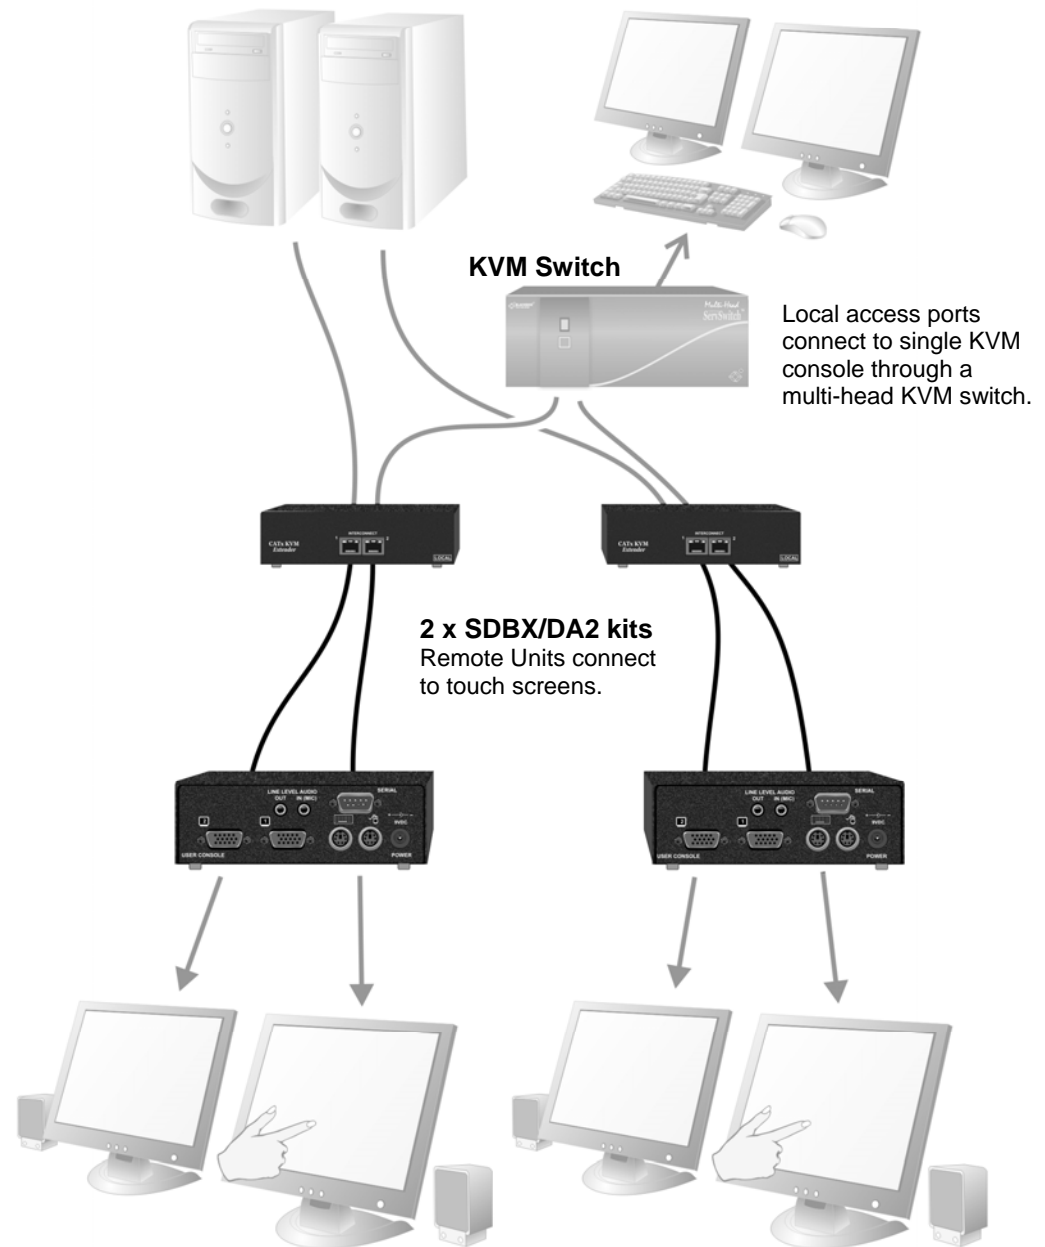

Figure 9 Touch screen network with local access to CPU through KVM switch
- Remote serial touch screens with local access through a KVM switch (Figure 9).